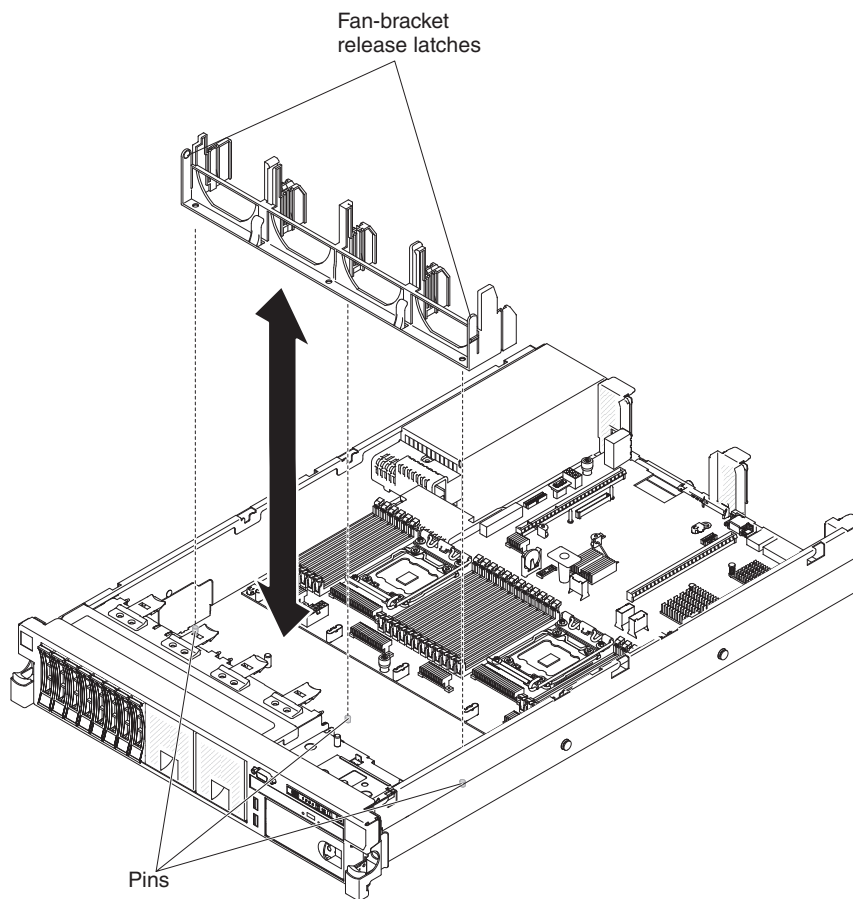

Figure 184. Replacing the fan bracket
1. Lower the fan bracket into the chassis, as shown in Figure 184 on page 226.